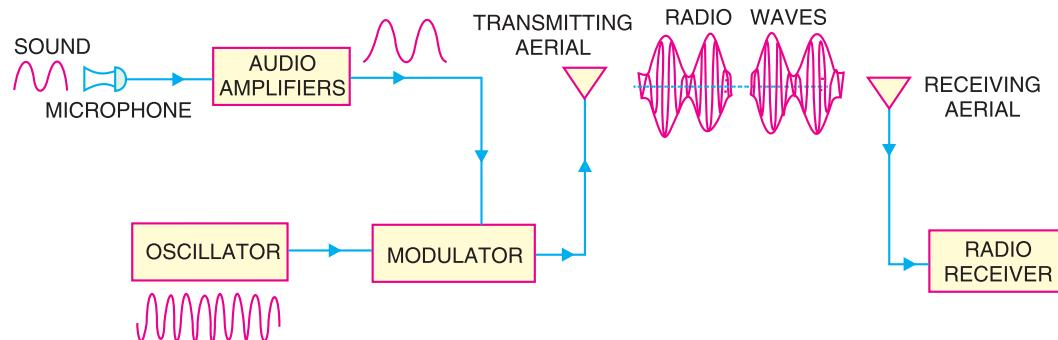

Fig. 16.1
Radio communication means the radiation of radio waves by the transmitting station, the propagation of these waves through space and their reception by the radio receiver. Fig. 16.1 shows the general principles of radio broadcasting, transmission and reception. As a matter of convenience, the entire arrangement can be divided into three parts viz. *transmitter*, *transmission of radio waves* and *radio receiver*.
1. Transmitter. Transmitter is an extremely important equipment and is housed in the broadcasting station. Its purpose is to produce radio waves for transmission into space. The important components of a transmitter are microphone, audio amplifiers, oscillator and modulator (See Fig. 16.1).
(iii) Oscillator. The function of oscillator is to produce a high frequency signal, called a *carrier wave*. Usually, a crystal oscillator is used for the purpose. The power level of the carrier wave is raised to a sufficient level by radio frequency amplifier stages (not shown in Fig. 16.1). Most of the broadcasting stations have carrier wave power of several kilowatts. Such high power is necessary for transmitting the signal to the required distances.